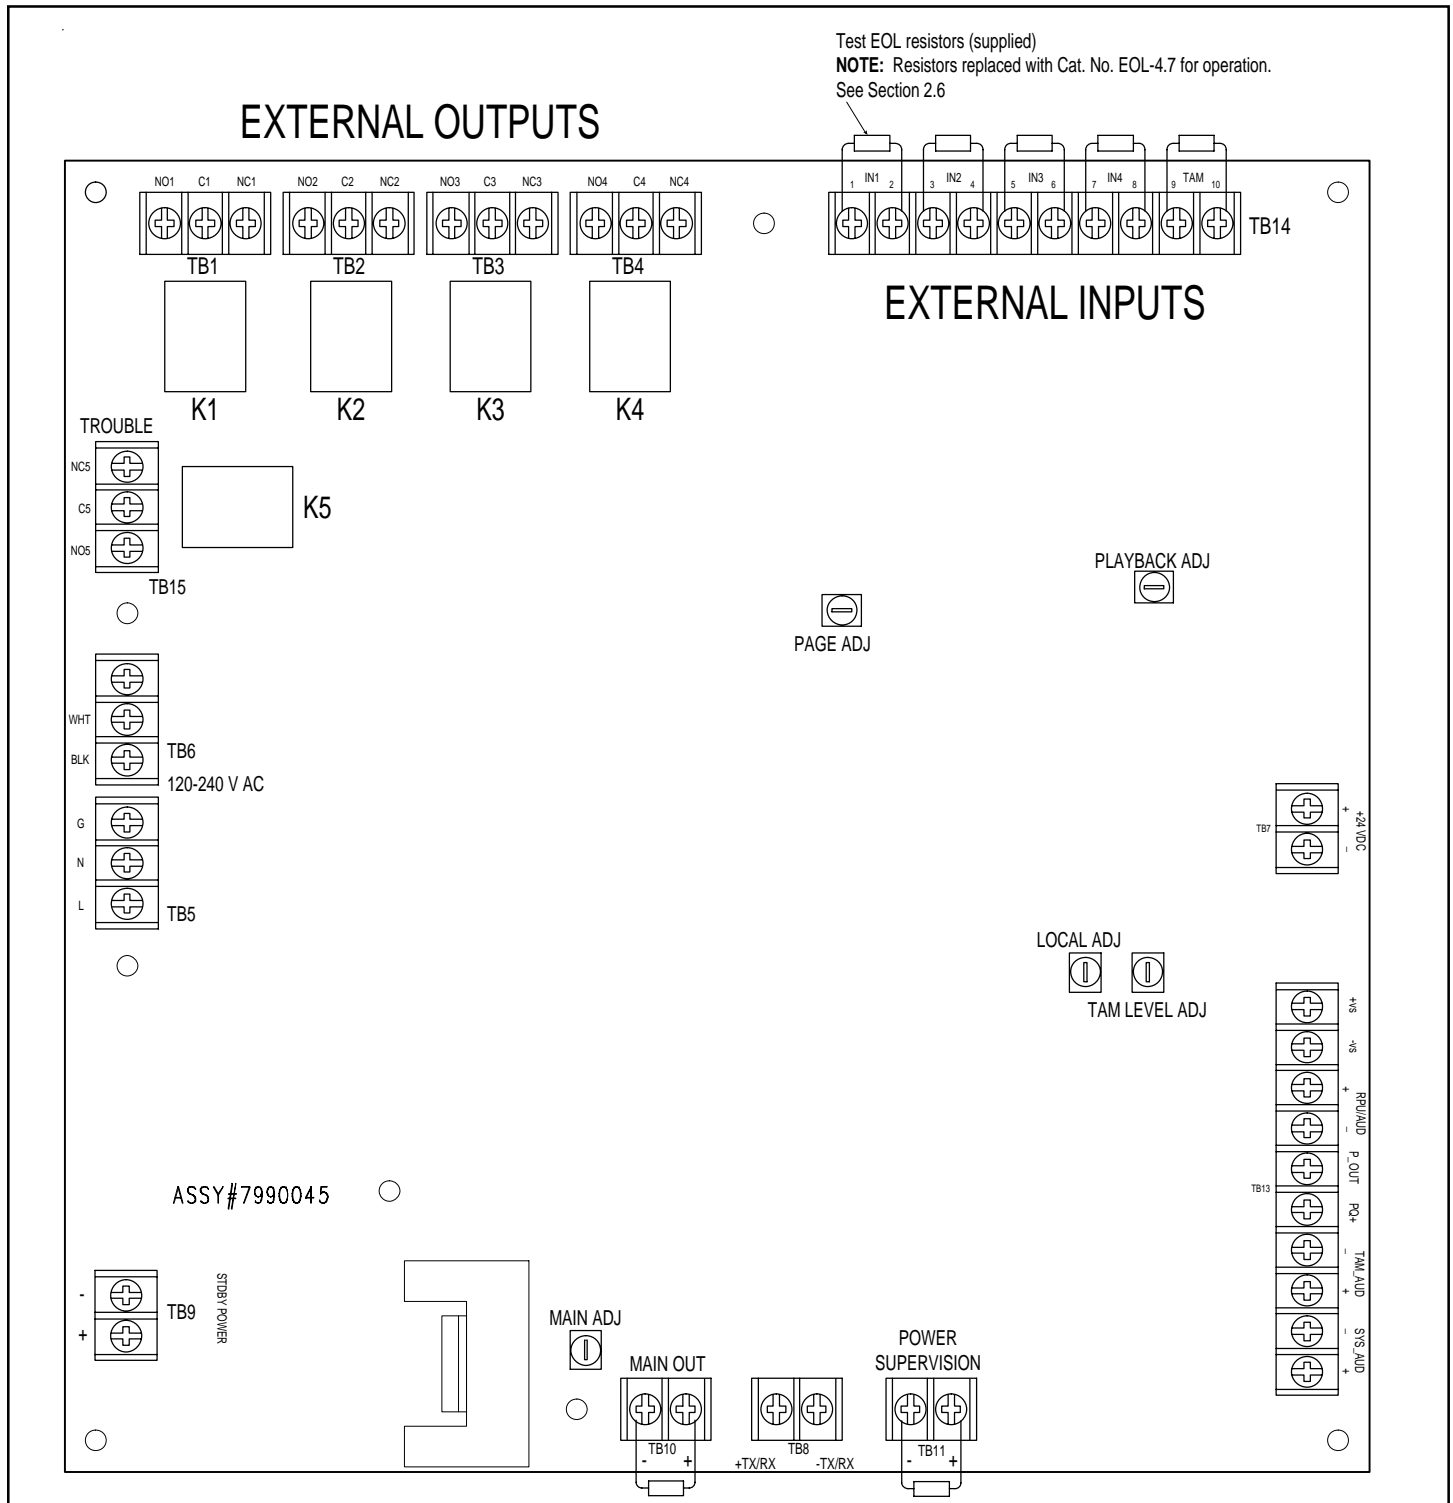
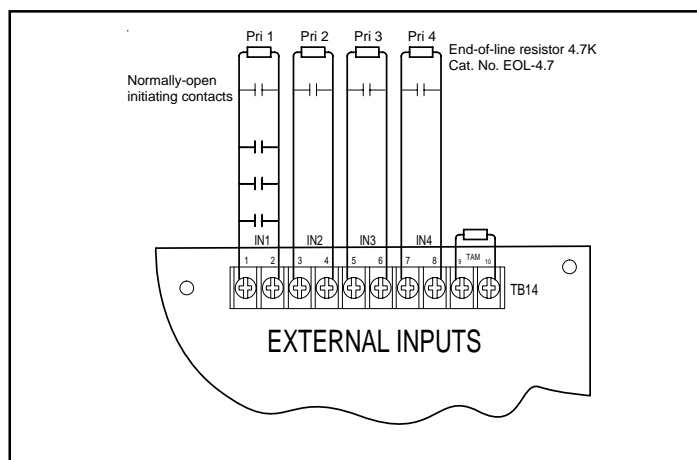

Figure 3. PC Board Locations
Figure 8. Connecting Normally-Open Initiating Contacts
2. Connect green ground wire to terminal "G" on terminal block TB5 (Figures 3 and 4).
3. Connect incoming Neutral to terminal "N" on terminal block TB5. Connect incoming Hot to terminal "L" on terminal block TB5 (Figures 3 and 4).
4. When using an auxiliary power supply, connect Stdby Power (-) terminal (TB9) on the panel to the (-) connection on the auxiliary power supply. Connect Stdby Power (+) terminal (TB9) on the panel to the (+) connection on the auxiliary power supply. (See Figures 3 and 5.)
The Millennium System Master is capable of driving up to 64 Satellite Panels. Connect the System Masters together as described here (See Figures 3 and 6).
The Millennium System Master is capable of driving a total of 200 (64 of which can be addressable) 5532M Series speaker/amplifiers. Connect the console to the speaker/amplifiers as described below (See Figures 3 and 7).
2. Connect normally-open initiating contact(s) to input terminals IN1, IN2, IN3, IN4 on External Input terminal block, TB14 (see Figures 3 and 8) as required. Install 4.7K ohm resistors, Cat. No. EOL 4-7, at the end of each circuit as shown in Figure 8.
Up to four loads can be connected to the external output relays. Refer to Figures 3 and 9 for connections and to Appendix C, Panel
Up to twenty-five 5542RPUs can be connected to the panel. The first paging unit connected has the highest priority on the system followed by decreasing priorities for the remainder of the 5542RPU paging units connected in series. (Refer to Figures 3 and 12.)